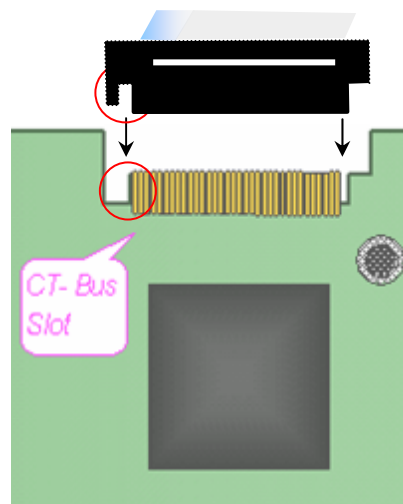

Figure 2-13 Connection of H.100 Bus
- 1) See Figure 2-13 for correct insertion. Do not twist or insert in the opposite direction.